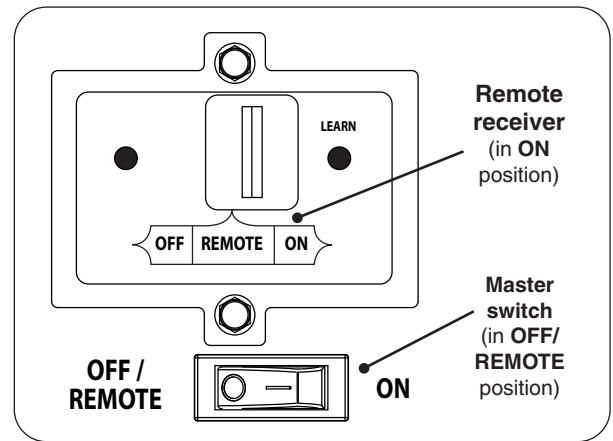

Fig. 45-1 Control panel detail
1. Ensure the master switch is in the **OFF/REMOTE** position (see Fig. 45-1).
3. Locate the 3-position switch on the remote receiver (see Fig. 45-1), and slide the switch to the **ON** position.
The master switch should remain in the **OFF/REMOTE** position to allow for remote system operation (see Fig. 45-1).